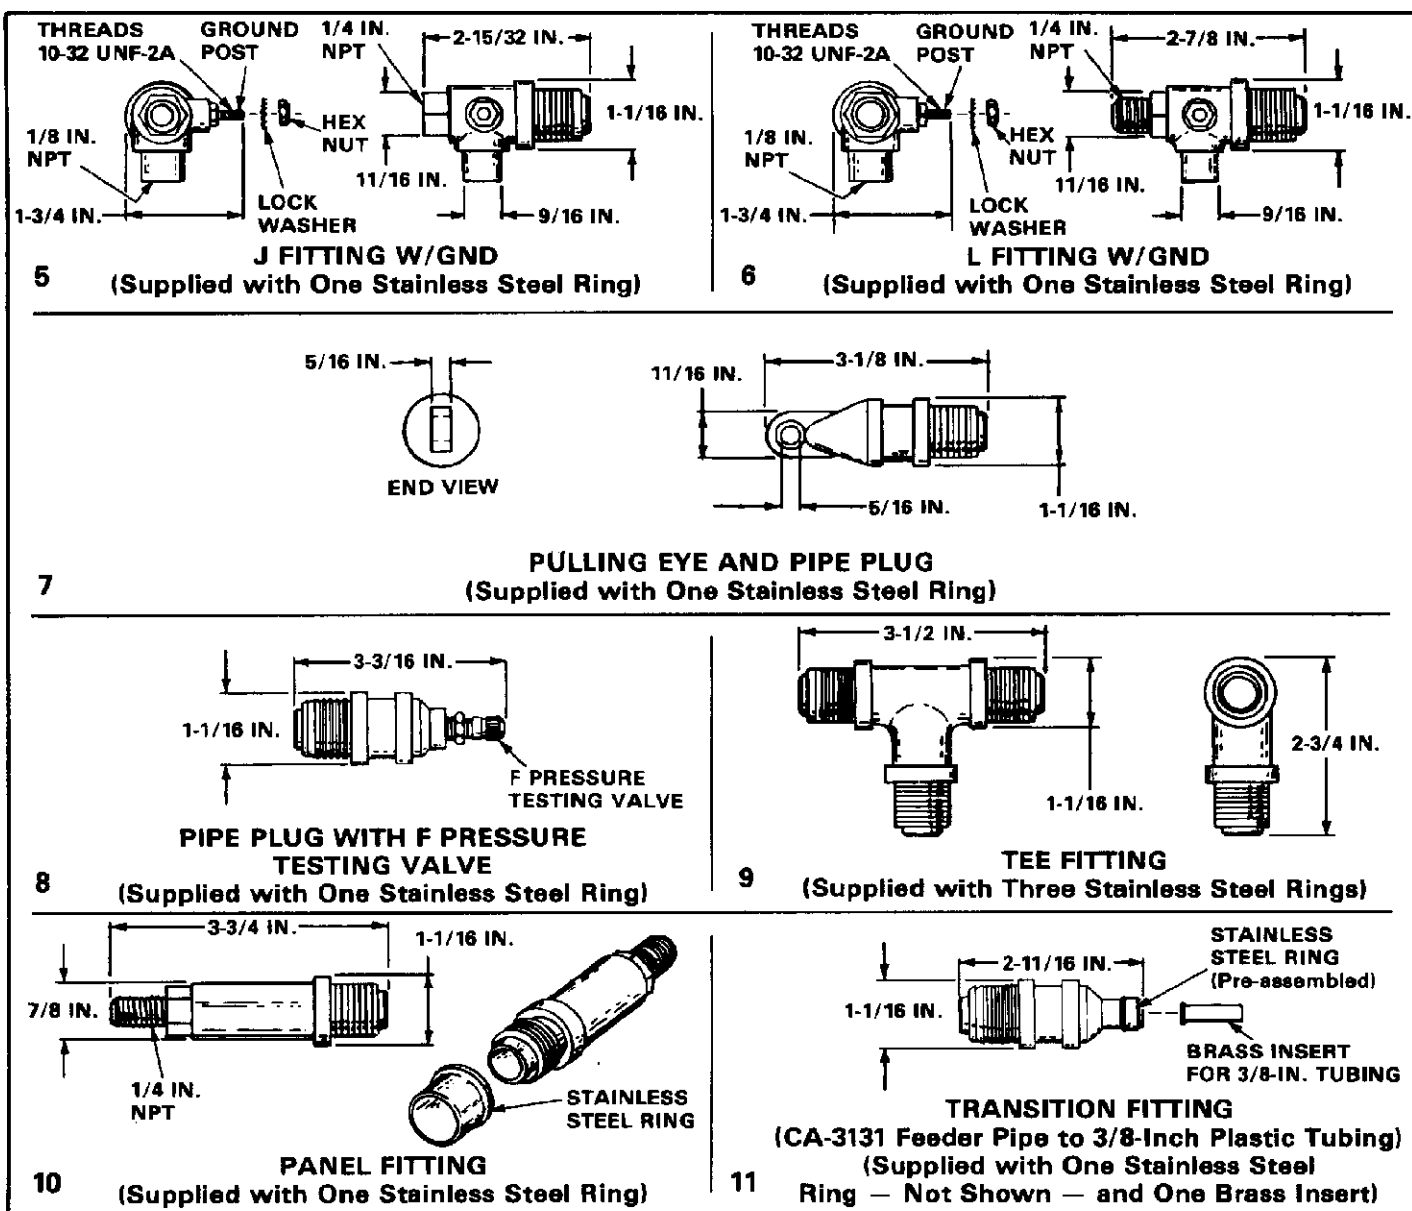

Fig. 1—Plastic Pipe Fittings (Contd from Page 1)
2.05 Branch Tee Fittings (J and L Fittings — both with ground) (5 and 6, Fig. 1) are used for the permanent joining of one section of CA-3131 Feeder Pipe. The J Fitting has an exit port on one end with a 1/4-inch NPT thread for use in installing a 1/4-inch male NPT fitting. It also has a side exit port with a 1/8-inch NPT thread for use in installing an F Pressure Testing Valve (not supplied). The L Fitting has an end port with a 1/4-inch male NPT thread for use in installing a 1/4-inch NPT female NPT fitting. It also has a side exit port with a 1/8-inch NPT thread for use in installing an F Pressure Testing Valve (not supplied).